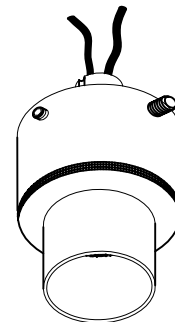

Figure 5
3. Replace Lamp Ring Cover Assembly. See Fig. 5.